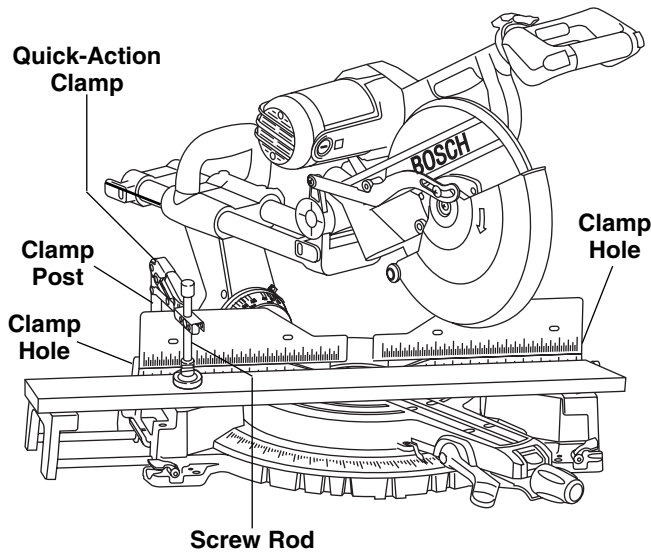

Figure 19. Quick-Action Clamp
**Quick-Action Clamp** - This clamp easily secures a workpiece in either of two (2) clamp holes behind the fence (Figure 19).